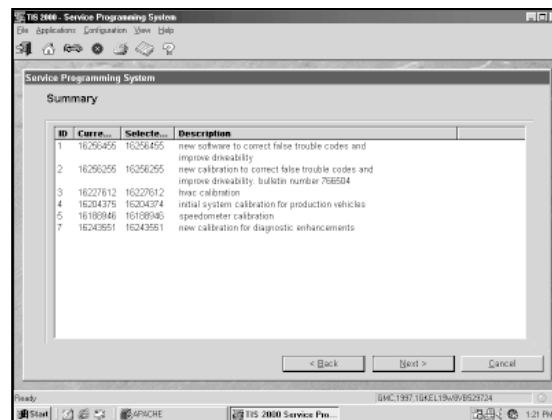

Figure I-36, Confirm Calibration
13. A summary screen will appear that summarizes the current and selected calibrations of the control module. Confirm your choices (Figure I-36), then select Next.